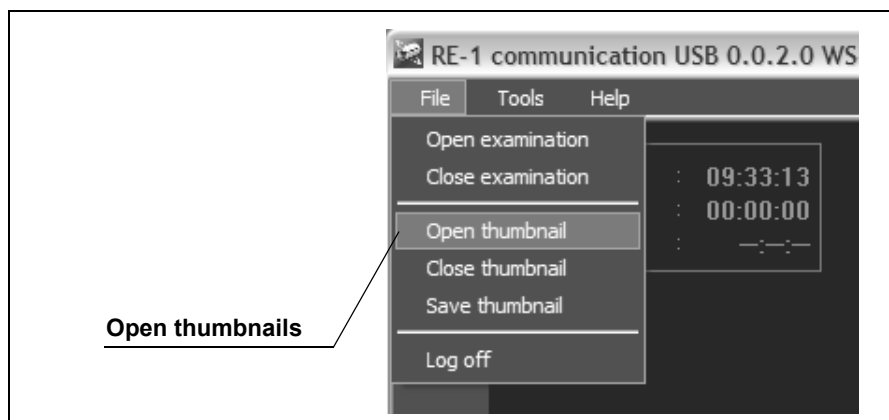

Figure 6.12
1. Select “Open thumbnails” from the “File” menu on the main screen (see Figure 6.12). The file open screen is displayed.